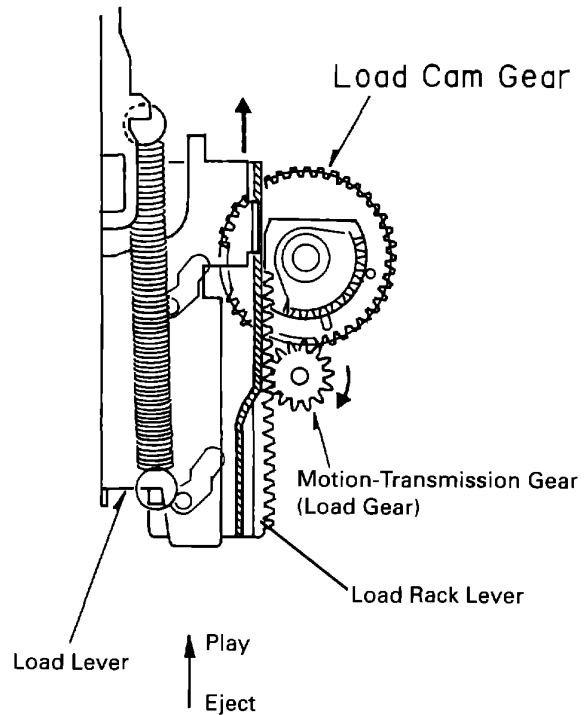

Fig.37
- ① Rotation of the Draw-In Arm by insertion of a cassette, and turning on the LOAD Switch.
- ② Rotation of the Load Cam Gear, sliding the Load Rack Lever and applying the +B line.
- ③ Drawing in and seating a cassette.
① The Draw-In Arm rotates upon insertion of a cassette, turning on the LOAD Switch. The microcomputer, after confirming it for 100msec, applies the +B line.
② When the +B line is applied, the Load Cam Gear leaves the rack section of the Load Rack Lever. Next, the Load Rack Lever meshes with the Motion-Transmission Gear to slide upward as shown in the figure 37. At this moment, rotation of the Load Cam Gear is stopped by the cam lobe of the Load Rack Lever, so that Head-extrusion is prevented.